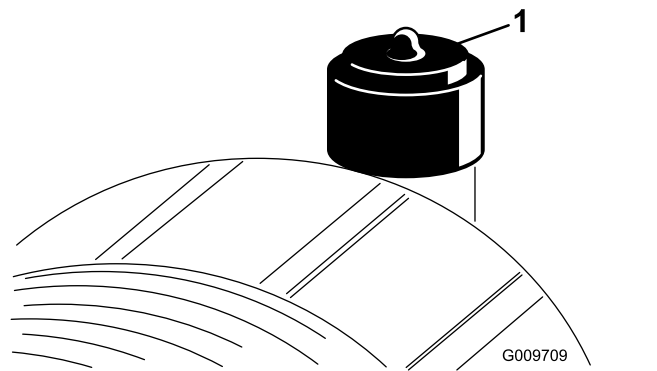

Figure 75
Service the air-cleaner filter only when the service indicator (Figure 75) requires it. Changing the air filter before it is necessary only increases the chance of dirt entering the engine when you remove the filter.
2. Reset the indicator (Figure 75) if it shows red.